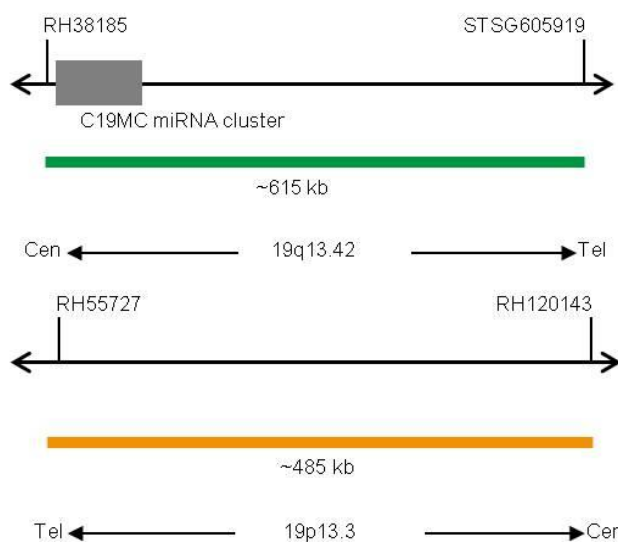

Fig. 1: Top: SPEC C19MC Probe map; Bottom: 19p13 Probe map (not to scale)
- ZyGreen (excitation 503 nm/emission 528 nm) labeled polynucleotides (~10.0 ng/μl), which target sequences mapping in 19q13.42* (chr19:54,156,239-54,768,983) harboring the C19MC locus (see Fig. 1).
- ZyOrange (excitation 547 nm/emission 572 nm) labeled polynucleotides (~4.5 ng/μl), which target sequences mapping in 19p13.3* (chr19:658,555-1,144,465) (see Fig. 1).